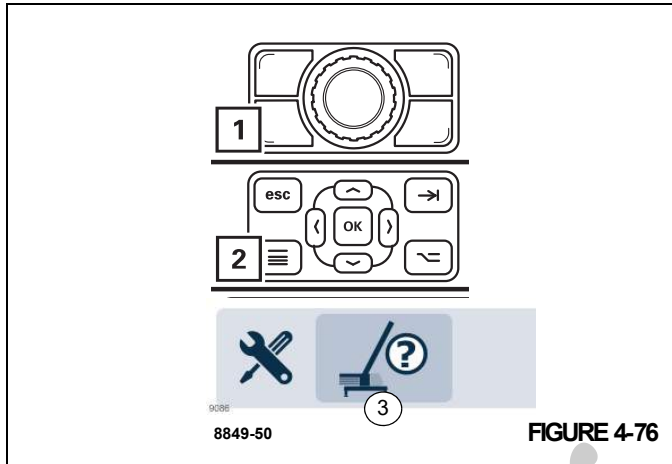

FIGURE 4-76
If you need to correct values, press the button (1), (Figure 4-76) or (2), (Figure 4-76) and open the Enter rigging mode (3), (Figure 4-76) menu.